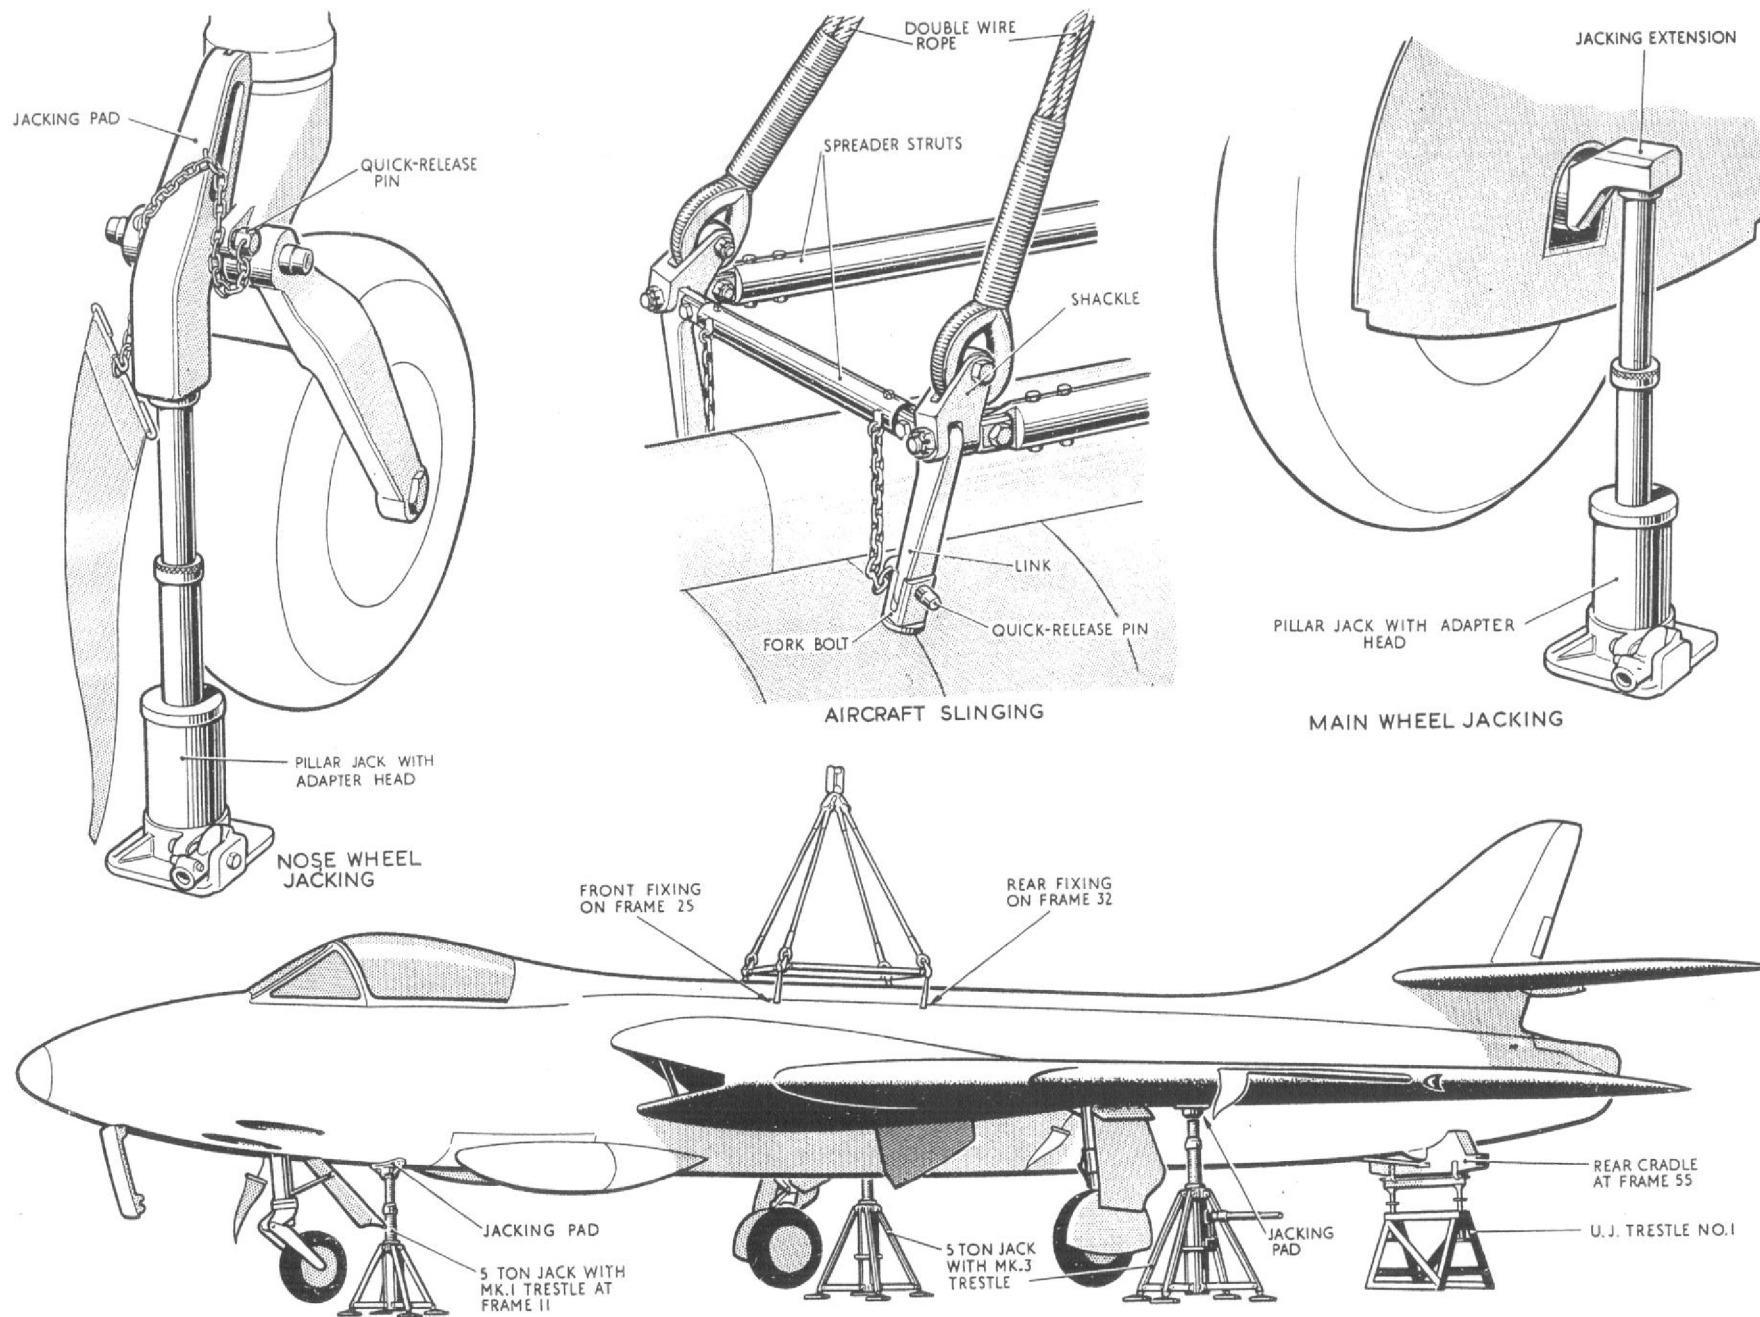

Fig.2 Jacking, trestling and slinging
- (1) Jack up the aircraft (fig.2) and retract the alighting gear.
- (2) Position the component trestles to fully support the aircraft.
- (3) Remove the outer wings (Sect.3, Chap.2) after removing any external stores which may be fitted.
6. The methods to be employed and the jacks, trestles, etc., to be used when jacking, slinging and trestling the complete aircraft for servicing are illustrated in fig.2. It should be noted that the fuselage jacking pad has a concave bearing surface and must not be interchanged with the wing jacking pad, which has a flat bearing surface.
10. When checking the alignment of the structure by means of the diagonal dimensions given in fig.5, there is no need to trestle the aircraft. When the incidence and dihedral are being checked, the aircraft must be trestled in the flying position, with the equipment shown in fig.2. The procedure for rigging is as follows:—